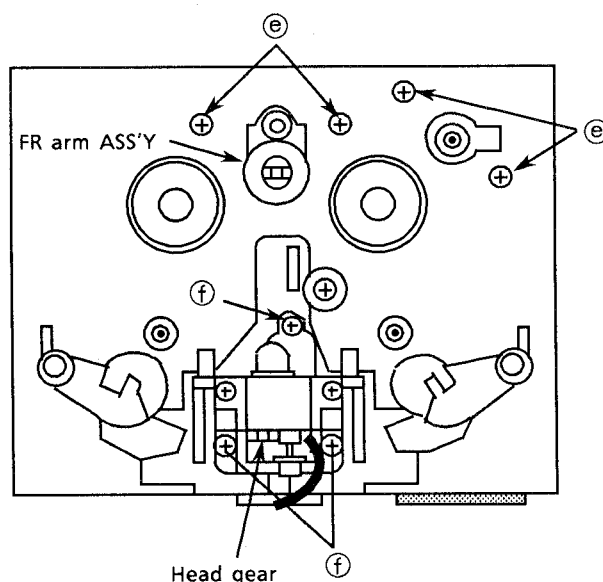

Fig 21
3. Remove the 3 screws ⑥ fixing the head assembly (Fig 21).